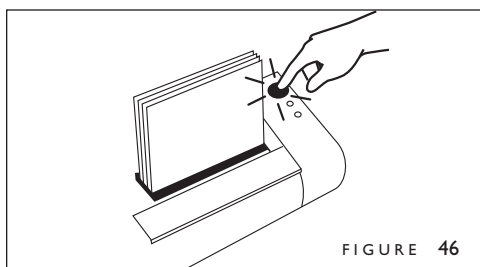

FIGURE 46
7. Press the BIND button (figure 46). The binding process will begin.